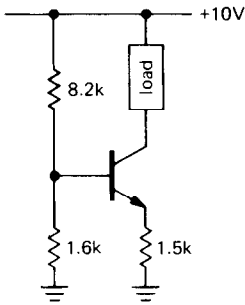

Figure 2.79
(2) Consider the current source in Figure 2.79. (a) What is I_{load} ? What is the output compliance? Assume V_{BE} is 0.6 volt. (b) If h_{FE} varies from 50 to 100 for collector voltages within the output compliance range, how much will the output current vary? (There are two effects here.) (c) If V_{BE} varies according to $\Delta V_{BE} = -0.0001 \Delta V_{CE}$ (Early effect), how much will the load current vary over the compliance range? (d) What is the temperature coefficient of output current assuming that h_{FE} does not vary with temperature? What is the temperature coefficient of output current assuming that h_{FE} increases from its nominal value of 100 by $0.4\%/^{\circ}\text{C}$?
(3) Design a common-emitter *npn* amplifier with voltage gain of 15, V_{CC} of +15 volts, and I_C of 0.5mA. Bias the collector at $0.5V_{CC}$, and put the low-frequency 3dB point at 100Hz.
(4) Bootstrap the circuit in the preceding problem in order to raise the input impedance. Choose the rolloff of the bootstrap appropriately.
(5) Design a dc-coupled differential amplifier with voltage gain of 50 (to a single-ended output) for input signals near ground, supply voltages of ± 15 volts, and quiescent currents of 0.1mA in each transistor. Use a current source in the emitter and an emitter follower output stage.
(6) In this problem you will ultimately design an amplifier whose gain is controlled by an externally applied voltage (in Chapter 3 you will see how to do the same thing with FETs). (a) Begin by designing a long-tailed pair differential amplifier with emitter current source and no emitter resistors (undegenerated). Use ± 15 volt supplies. Set I_C (each transistor) at 1mA, and use $R_C = 1.0\text{k}$. Calculate the voltage gain from a single-ended input (other input grounded) to a single-ended output. (b) Now modify the circuit so that an externally applied voltage controls the emitter current source. Give an approximate